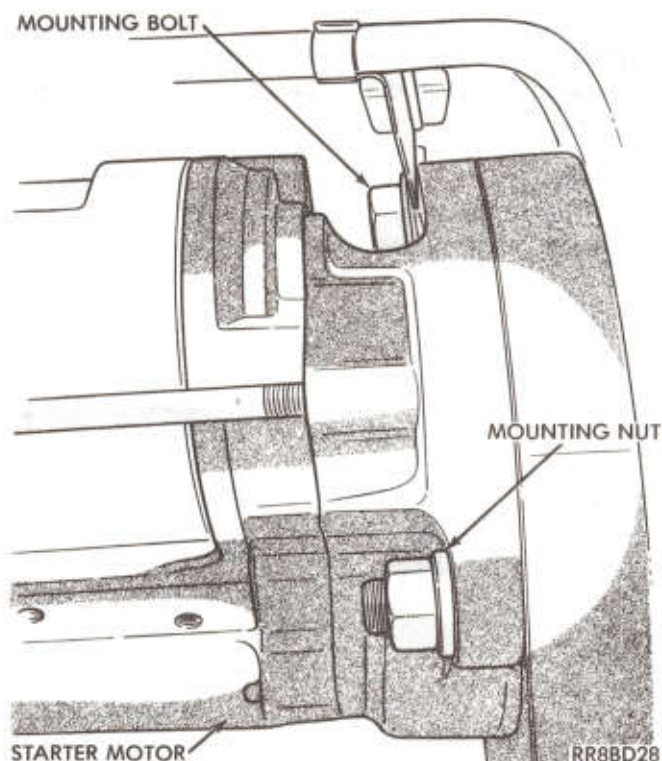

Fig. 3—Remove or Install Starter Mounting Bolt and Nut
- (3) Remove mounting bolt and nut securing the starter to the bellhousing (Fig. 3).
(2) Remove terminal adapter attaching (2) nuts and remove adapter terminals (Fig. 3).